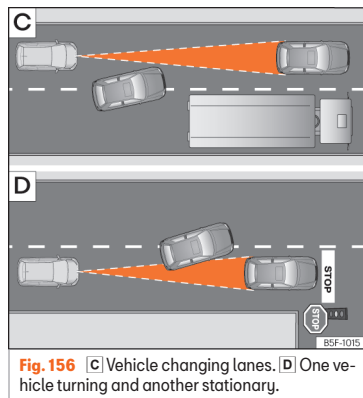

Fig. 156 **C** Vehicle changing lanes. **D** One vehicle turning and another stationary.
- Vehicles that move into your lane, a short distance from your vehicle » **Fig. 156 [C]**.
The ACC does not react to stationary vehicles. If, for example, a vehicle detected by the ACC turns or moves over and there is a stationary vehicle in front of it, the ACC will not react to the second vehicle »» Fig. 156 [D].